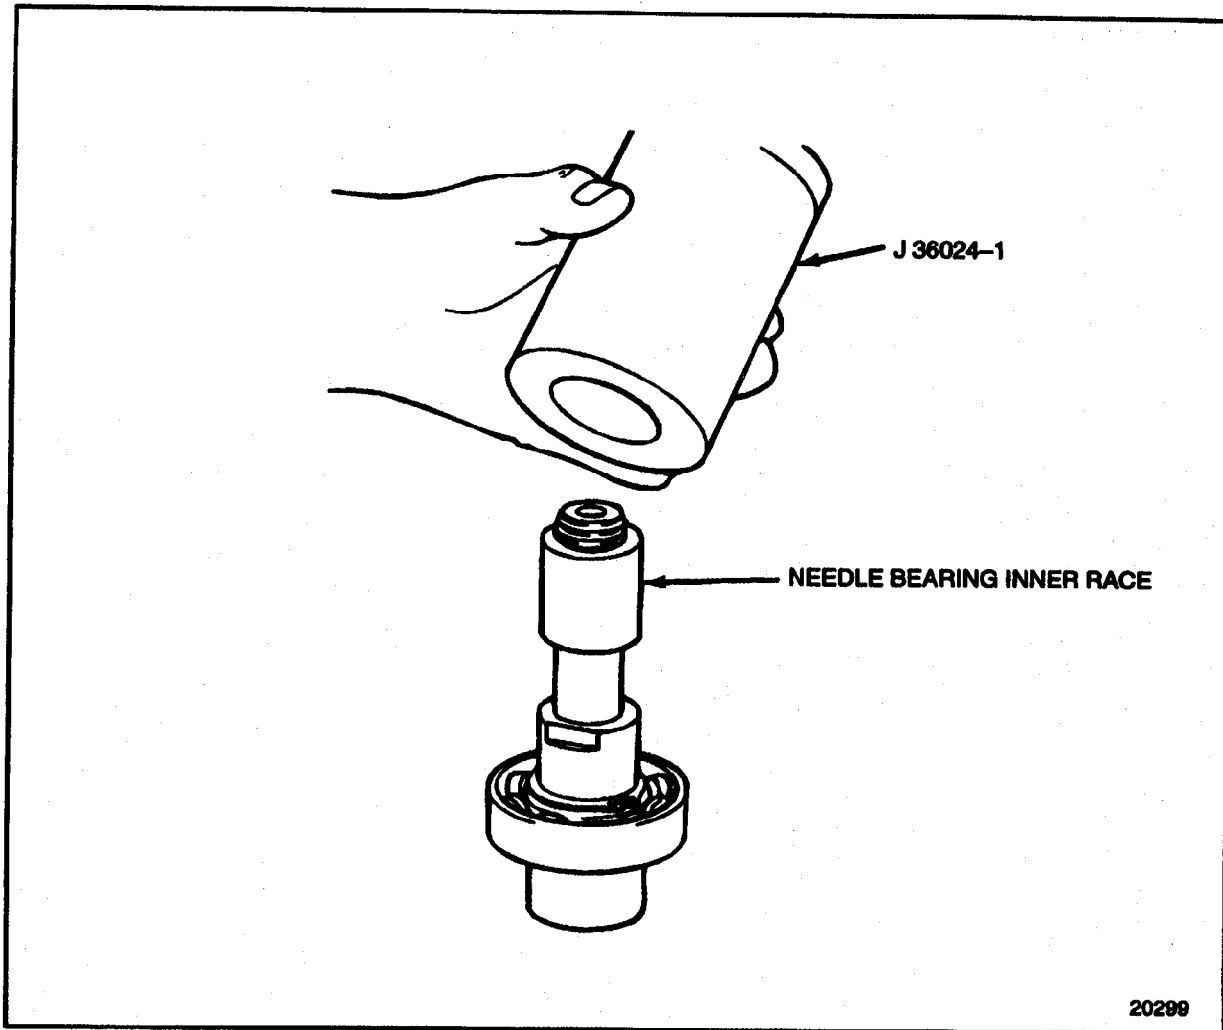

Figure 1-414 Needle Bearing Inner Race Installation
3. Place the needle bearing inner race on the accessory drive shaft. Use tool J 36024-1 part of J 36024-C and a press to install the bearing inner race to the shaft until it is tight against the shoulder. See Figure 1-414.